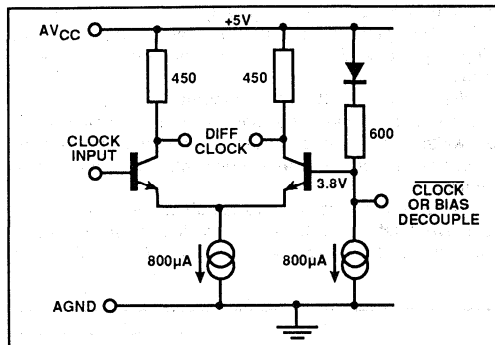

Fig.6 Clock input stage
**Clock Input (Fig.6)**
The SP973T8 will operate at clock frequencies up to and above 30MHz. The clock input has been designed to accept a 1Vpp signal, in either differential or single-ended mode, between the  $V_{IH(MAX)}$  and  $V_{IL(MIN)}$  levels indicated in the electrical specification. At  $V_{IH(MAX)}$  or  $V_{IL(MIN)}$  the CLK input will sink 800 $\mu$ A or source 3.2mA of current, respectively. (See Fig.6).